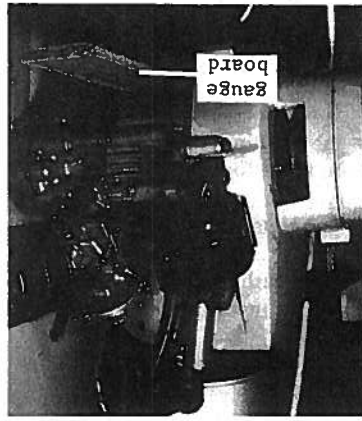

FIG. 4
- d. Place the gauge board (1/8 inch thick)(figure 4, 5) between tire and drive roller. Reposition mounting bracket/engine until drive roller rest on gauge board (figure 4, 5). Tighten four nuts evenly to secure bracket position (figure 6). Drive roller must be straight across tire.